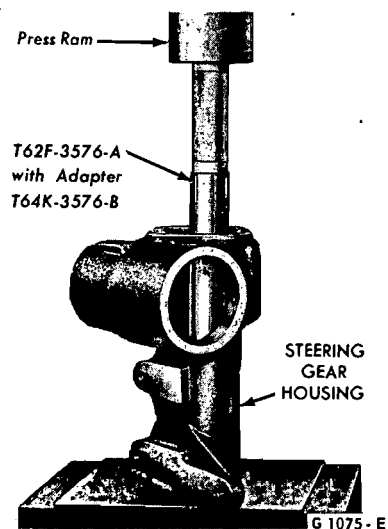

FIG. 19—Installing Sector Shaft Bearing
1. If the sector shaft bearings have been removed, press new bearings into the housing (Fig. 19).